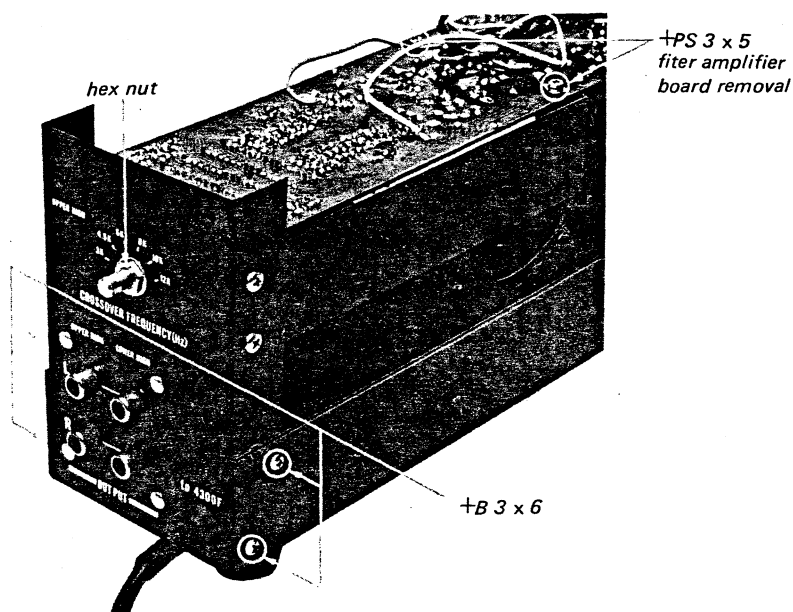

Fig. 2-5 Filter amplifier board and rear panel removal
2. Remove the control knob at the rear panel by loosening the set screw, and then remove the hex nut securing the CROSSOVER FREQUENCY switch to the rear panel. See Fig. 2-5.
3. Remove the two screws (+PS 3 X 5) securing the filter amplifier board to the mounting bracket. This frees the filter amplifier board. See Fig. 2-5.
3. Remove the two self-tapping screws (+B 3 X 6) at each side of the rear panel as shown in Fig. 2-5. This frees the rear panel.